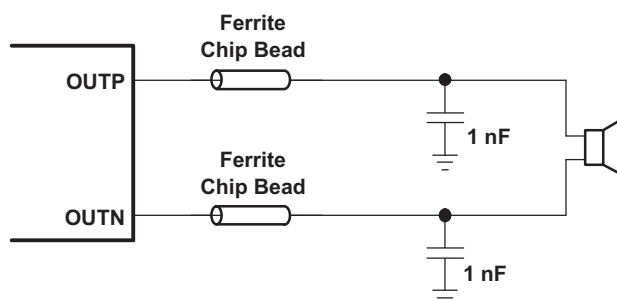

Figure 22. Typical Ferrite Chip Bead Filter (Chip Bead Example: NFZ2MSM series from Murata)
- Output filter—The ferrite EMI filter (Figure 22) should be placed as close to the output pins as possible for the best EMI performance. The capacitors used in the ferrite should be grounded to power ground.